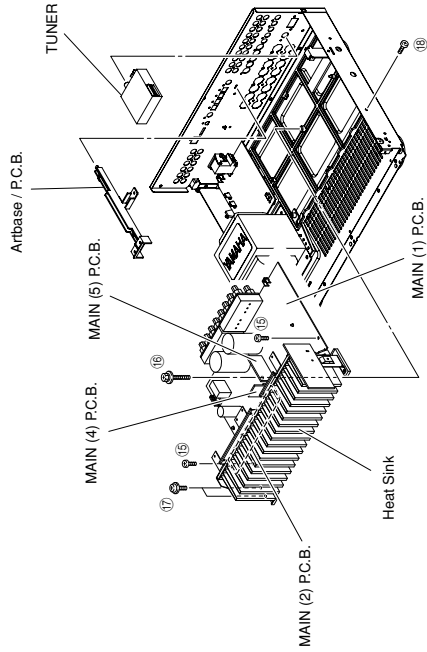

Fig. 5
- b. Remove the TUNER. (Fig. 5)
8. Removal of MAIN (1), (2), (4) and (5) P.C.B.s
- a. Remove the Arbase/P.C.B.. (Fig. 5)
- b. Remove 2 screws (⑮), 1 screw (⑯), 2 screws (⑰) and 1 screw (⑱). (Fig. 5)
- e. Remove MAIN (1), (2), (4) and (5) P.C.B.s together with the Heat Sink. (Fig. 5)